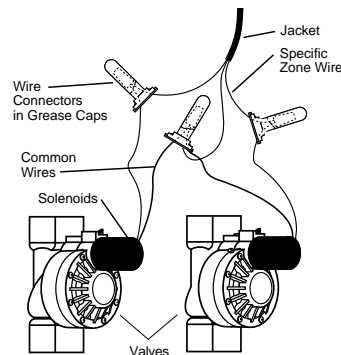

FIGURE 7: Connecting Controller Wires to Valves
- Each valve has two wires. One wire is to be connected as the common. The common wires for all the valves can be connected together to one common wire going to the controller. The other valve wire is to be connected to the specific station wire that will control that valve [See Figure 7].